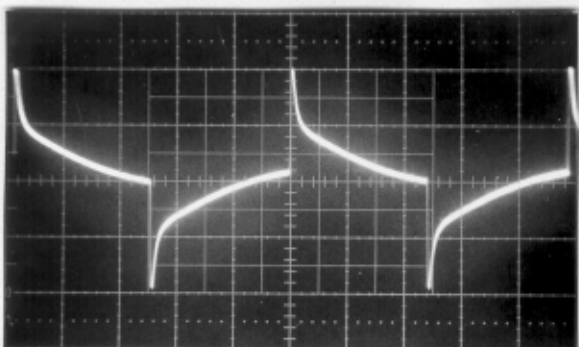

Fig. 1. Tones Center, Filters Off.
- 4) Look at output, compare to Figure 1.